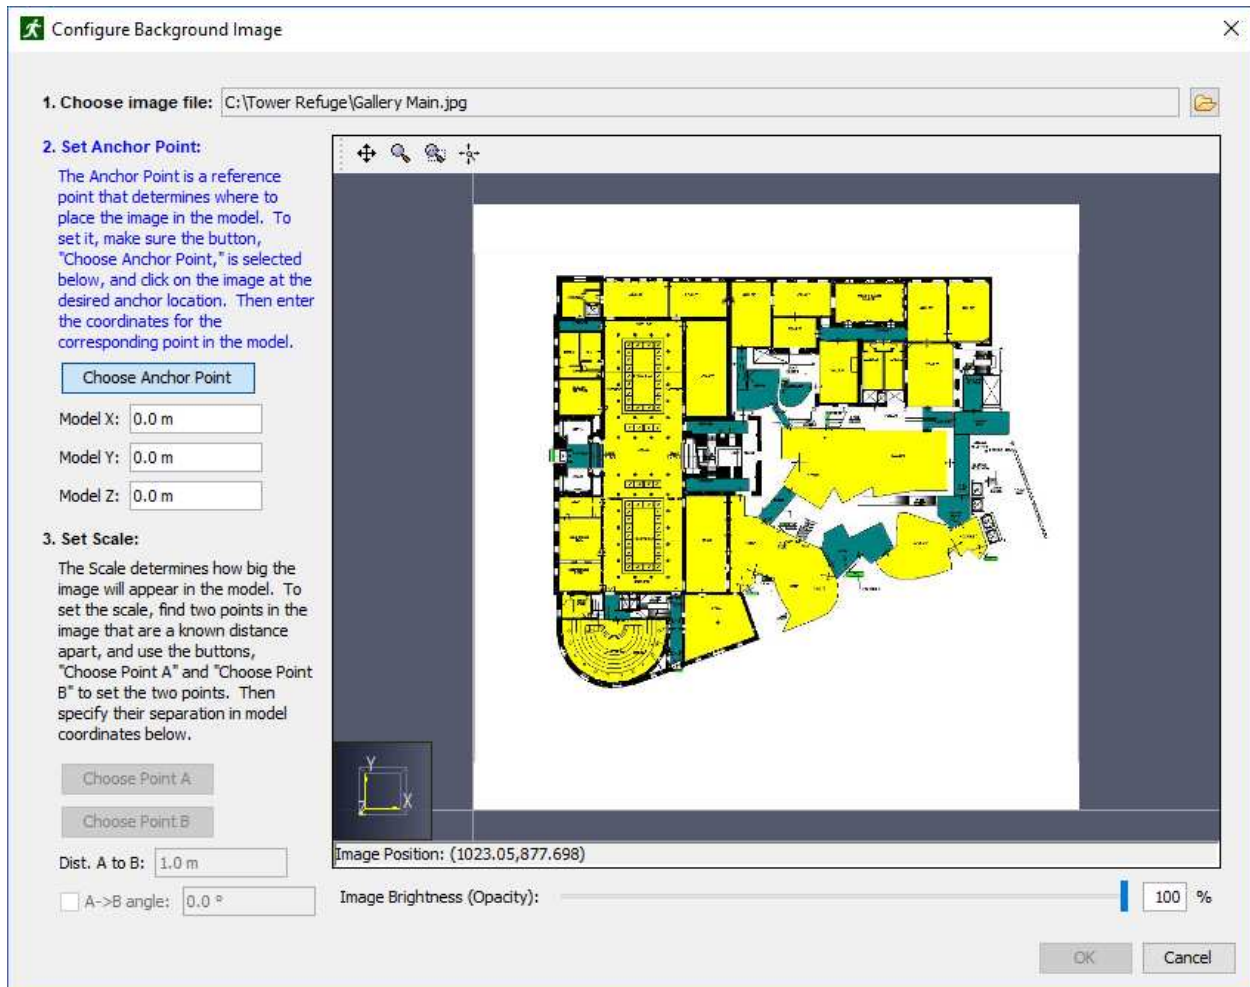

Figure 76. Set the anchor point
1. When clicked, a dialog will appear prompting for an image file. The following image formats are currently supported: BMP, GIF, JPG, PNG, and TGA. After a file is selected, a new dialog will appear as shown in Figure 76. This dialog allows properties of the image to be specified so that the proper scaling, rotation, and offset can be applied.